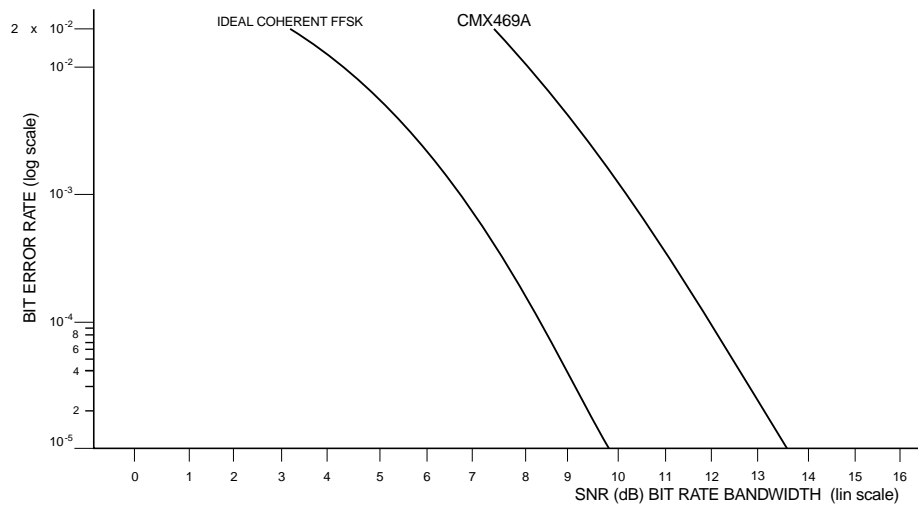

Figure 7: RX Bit-Error-Rate vs. Signal-to-Noise Ratio
5. See Figure 7: RX Bit-Error-Rate vs. Signal-to-Noise Ratio